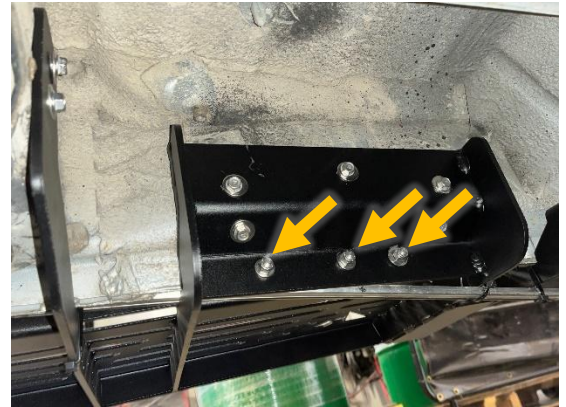

Figure 15: Pinch Weld Mounting Location
12. Mark the backside of the pinch weld on the van using the pre-cut holes on the step bracket as a template (**Figure 15**). Use a center punch to center the drilled hole in the slotted hole of the bracket. Drill through pinch weld using a 1/4" drill. There are three (3) bolts on the pinch weld that will use 1/4"-20 bolts, nuts, and washers.